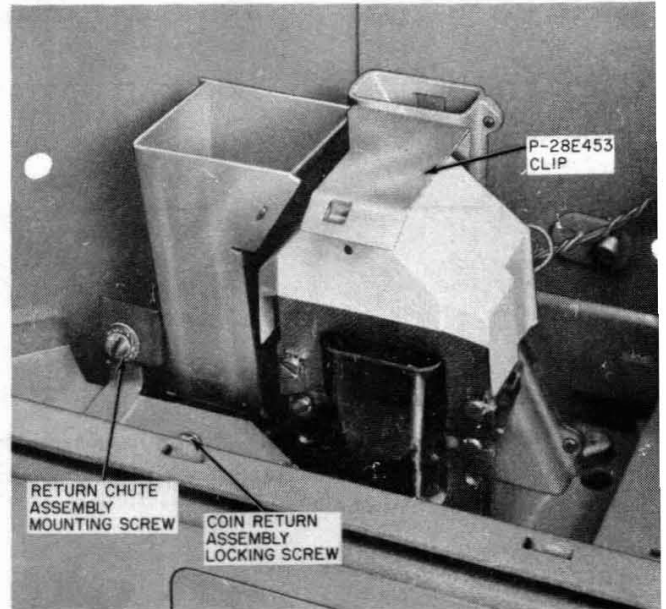

Fig. 18—Coin Relay and Return Chute Assembly
Return Chute Assembly**4.14 To remove return chute assembly (Fig. 18):**
4.16 To remove coin relay (Fig. 18):
- (3) Install dust cover and P-28E453 clip (Fig. 18).
- (4) Install return chute assembly (4.15).
- (1) Remove return chute assembly (4.14).
- (2) Remove coin return assembly locking screw (Fig. 18).
- (3) Insert finger in coin return and tilt top forward.
- (4) Lift coin return. Pull coin return assembly out and up.